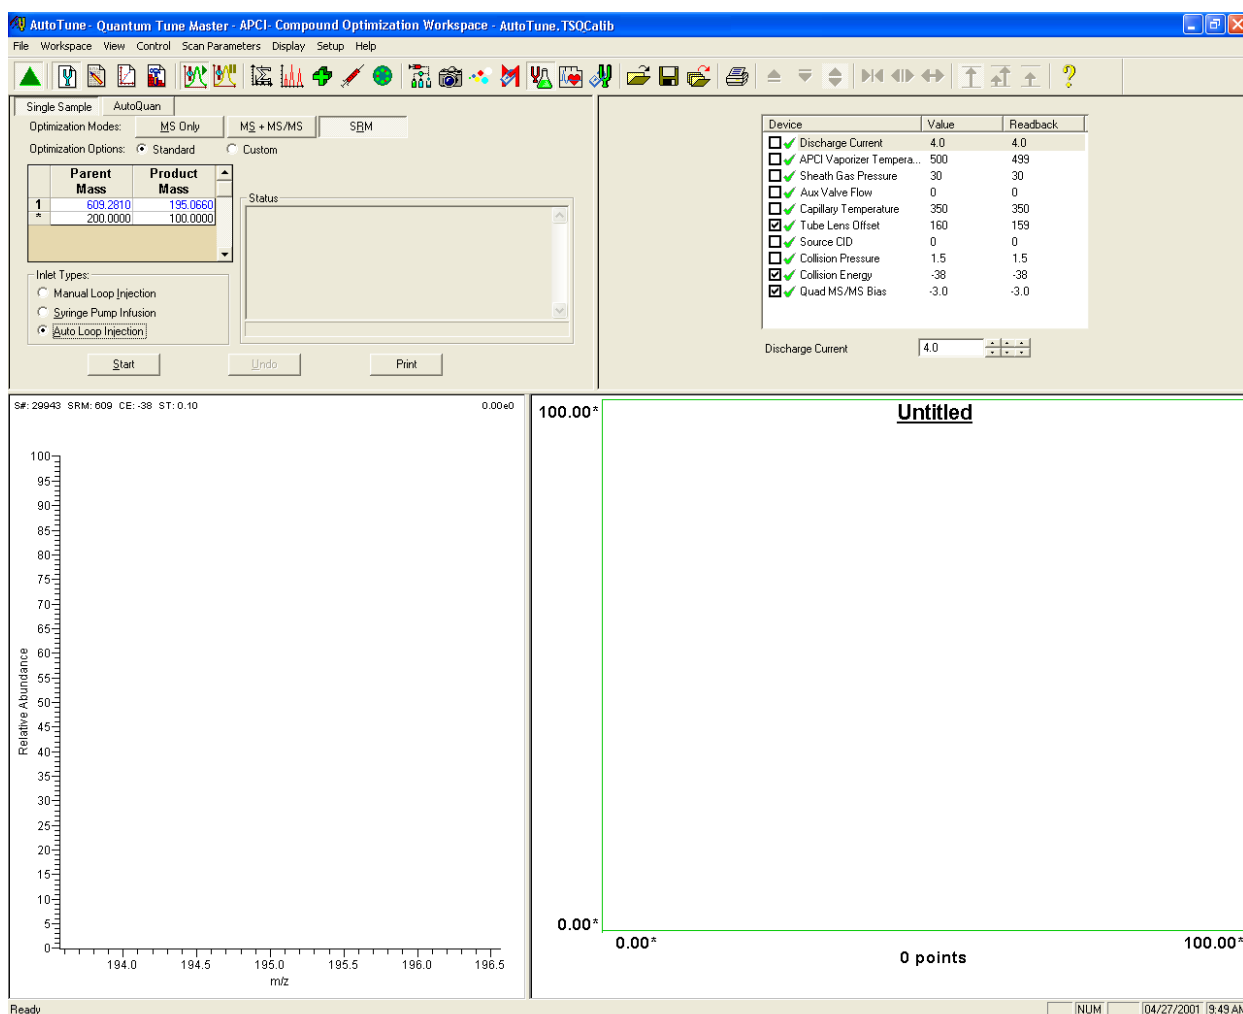

Figure 41. Compound Optimization workspace, APCI mode
1. On the Control / Scan Mode toolbar, click **Compound Optimization Workspace** to display the Compound Optimization workspace (Figure 41).